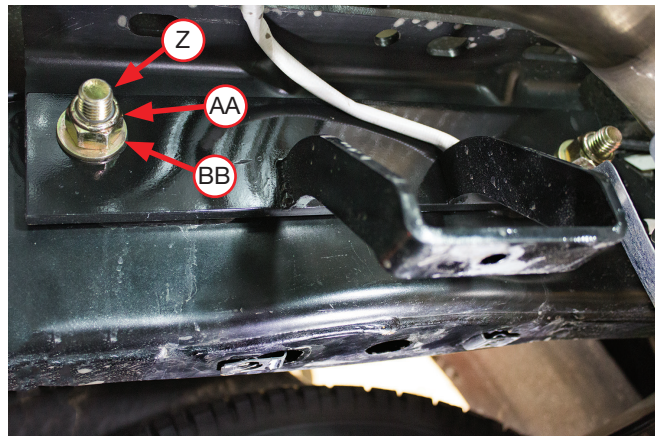

Fig. 27
- Remove the factory fifth wheel hitch hardware (if equipped), from the holes in the side of the frame. Using the existing holes in the frame, attach the upper frame brace (F) to the frame using the factory hitch hardware removed or the 5/8" (Z, AA, BB) hardware supplied (Fig. 27). Leave loose at this time.